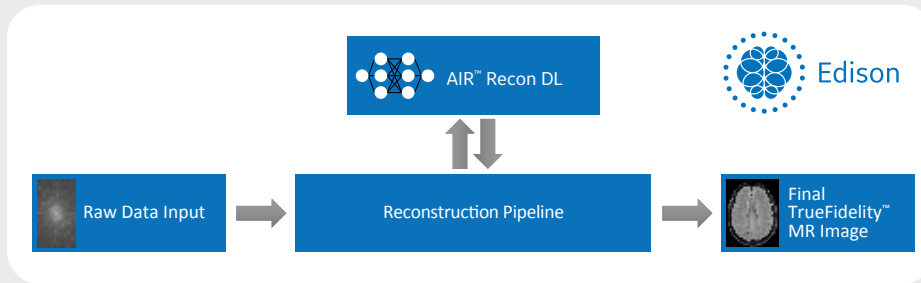

Figure 1. AIR™ Recon DL is integrated directly into the MR image reconstruction pipeline to intelligently reconstruct a final image with high SNR and sharpness.
AIR™ Recon DL represents a revolution in MR image reconstruction by introducing a deep learning-based convolutional neural network to intelligently reconstruct a final MR image with high SNR and image sharpness. AIR™ Recon DL is not a post-processing technique but rather is embedded directly in the reconstruction pipeline, where the neural network model is applied to acquired input data to remove noise and ringing artifacts prior to final image formation (Figure 1). By operating on raw data within the online reconstruction
Figure 1. Long bone/soft tissue assessment in 10-year-old patient, both legs imaged simultaneously with AIR™ AA Coil. (A, B) Coronal T2 FSE Flex, 0.9 x 1.2 x 5 mm, 2:54 min.; (B) Water image; (C) Axial T2 FSE Flex (Water), 1.2 x 0.8 x 5 mm, 2:31 min.; and (D, E) Axial DWI with ADC Map.
Figure 2. Same patient as Figure 1. (A) Sagittal Inhance 3D Velocity NCE MRA; (B) Sagittal 3D MERGE; and (C) Volume rendered 3D MERGE fused with NCE MRA and FSE Flex.